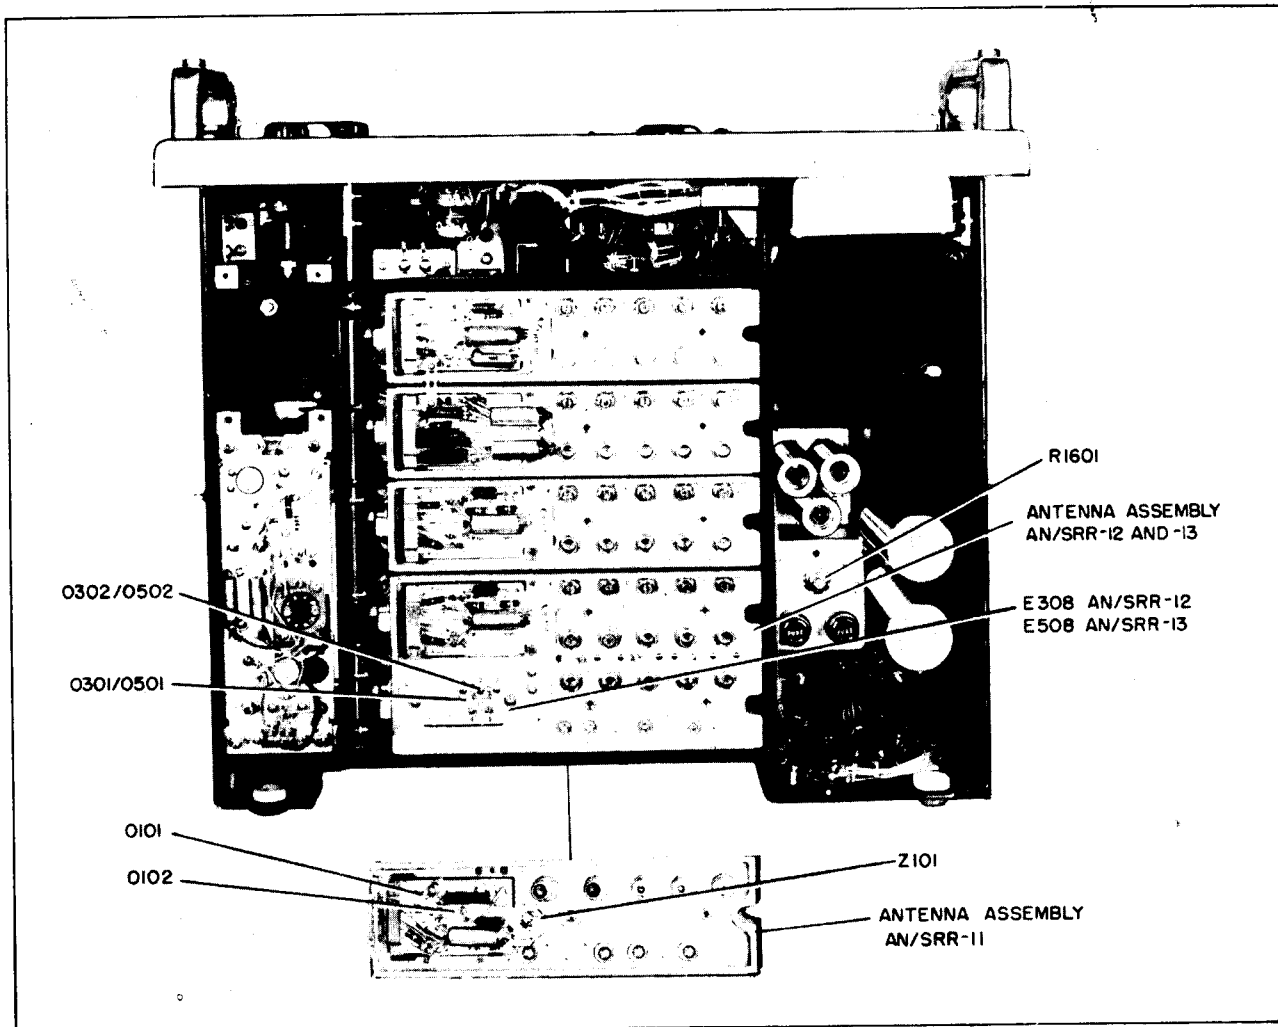

Figure 3-8. Initial Adjustment Component Location (Bottom View)
e. MATCHING ANTENNA IMPEDANCE.—The receivers are shipped with the links in the antenna assembly set to operate with a high-impedance antenna. To match the receiver input to a low-impedance antenna, place the receiver in the service position with the bottom of the chassis accessible. Links in the antenna Assembly of the AN/SRR-11, -12, or -13 should be set according to information given in figures 3-9 or 3-10, as the case may be. Location of the link boards are shown in figure 3-8.
SRR-11 must be open by appropriate setting of the ANT COMP control (turn the control to the HIGH position). Links O301 and O501 respectively must be set in position as shown in figure 3-10 to provide isolation when either the AN/SRR-12 or -13 is operated from a common antenna with another receiver. See figure 3-8 for link board location.
While monitoring the receiver with a headset plugged into the PHONES jack, adjust potentiometer R1601 in the power supply assembly. This potentiometer is located near the two FUSE cartridges. See figure 3-8.